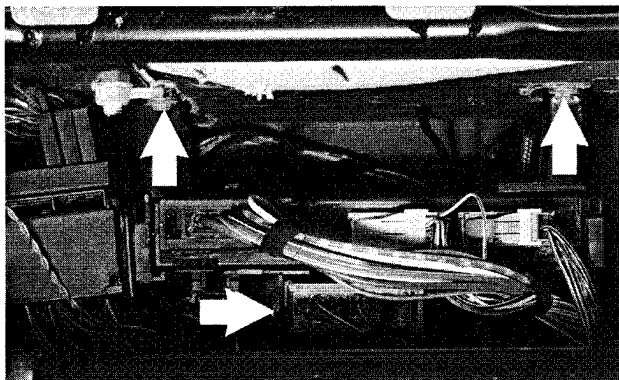

Fig. 52. Control module carrier retaining screws (arrows).
- 3. Remove right side control module carrier screws and tilt carrier down. See Fig. 52.